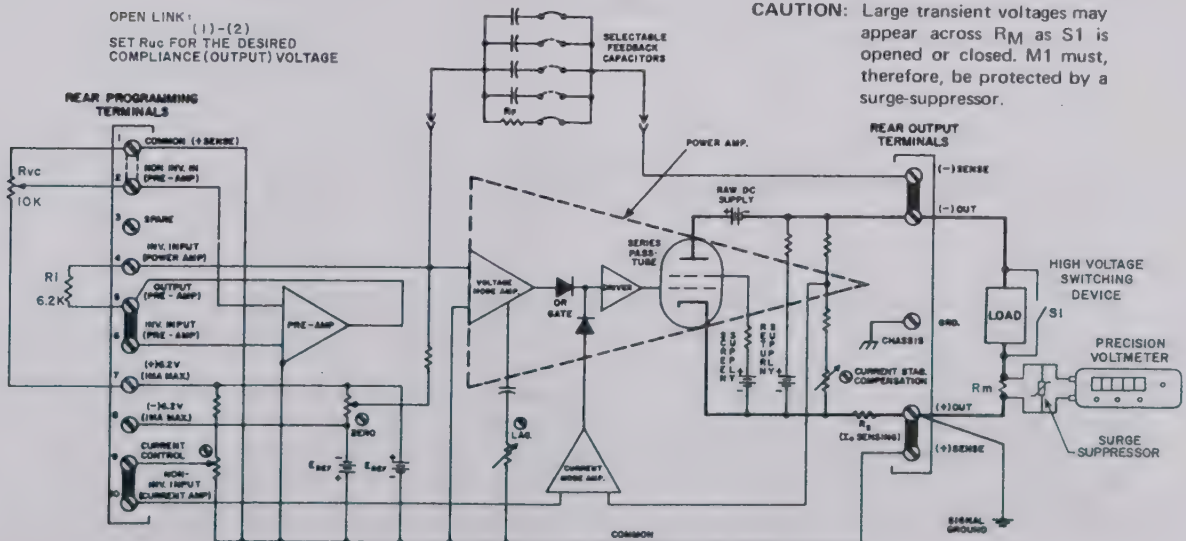

FIG. 5-2 OUTPUT EFFECT MEASUREMENTS, CURRENT CONTROL CHANNEL.
- RESISTOR LOAD, variable, capable of dissipating the full d-c output power of the unit under test and equipped with "on-off" and "shorting" switch (S1 in FIG. 5-2. Must be rated for the maximum OPS output voltage).
5-14 OUTPUT EFFECT MEASUREMENTS, CURRENT CONTROL CHANNEL. The output effects due to a-c source or d-c load variations in the **current mode** can be measured with the circuit shown in FIG. 5-2. These output effects ("SOURCE" AND "LOAD" EFFECT) are defined as **the amount of output current change, resulting from the specified variation in a-c source voltage, or from a change in load resistance**. The output effects can be expressed as an absolute change (ΔI_O), or as a percentage of the total output current (I_O):
5-15 PROCEDURE (Refer to FIG. 5-2)